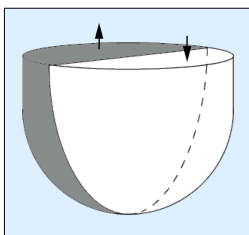

Figure 8: Coupling of the membrane and the internal modes of a kettle drum.
▶ vibrations of the membrane. Therefore, no matter how hard or softly you hit the membrane, the frequencies of its modes remain tightly locked to those permitted by the air in the cavity. Figure 8 depicts the 0,1 mode of a kettle drum, showing how the vibration of the air is coupled to the vibration of the membrane.